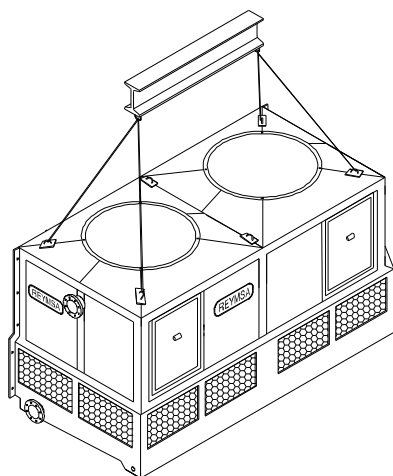
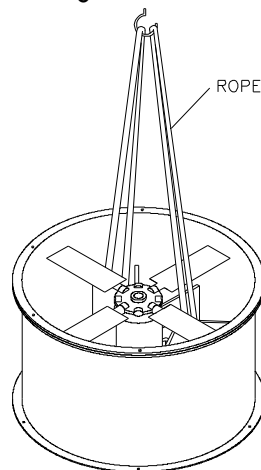

Figure A-15: Handling – Tower Section 1
Figure A-16: Fan Duct Lifting
- B. After assuring the equipment is received in proper conditions, proceed to unload it off of the transportation vehicle, piece by piece with a crane (using a spread bar) or forklift of the appropriate capacity. See examples on Figure A-15 and Figure A-16.